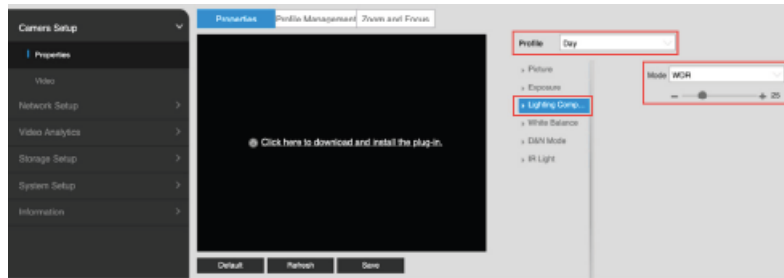

Fig. 3.5
- From the menu options to the right of the black window, select: “Lighting Compensation.” See Fig. 3.5.